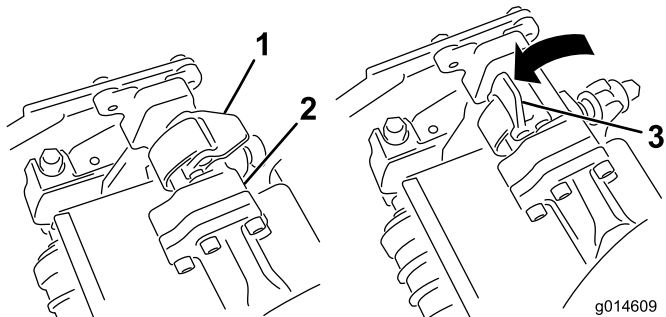
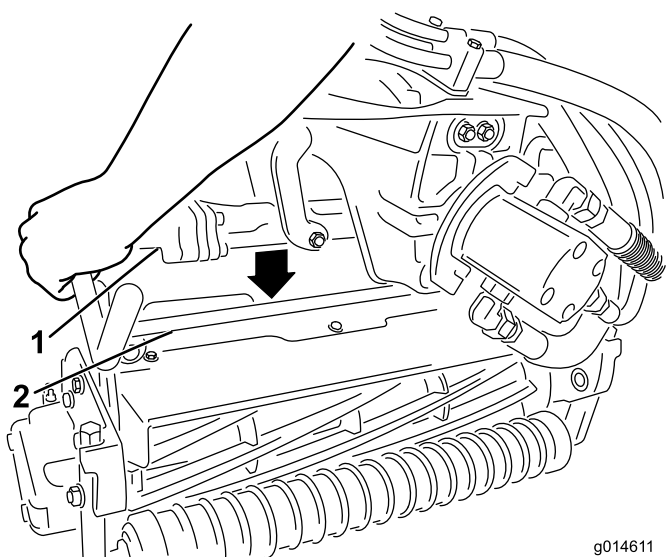

Figure 12
Figure 13
9. With the latches on the suspension-arm bar pointing up (i.e., open) (Figure 12), push the suspension arm down so that the bar fits over the bar across the top of the cutting unit (Figure 13).
10. Close the latches down and around the cutting-unit bar and lock them in place (Figure 12).